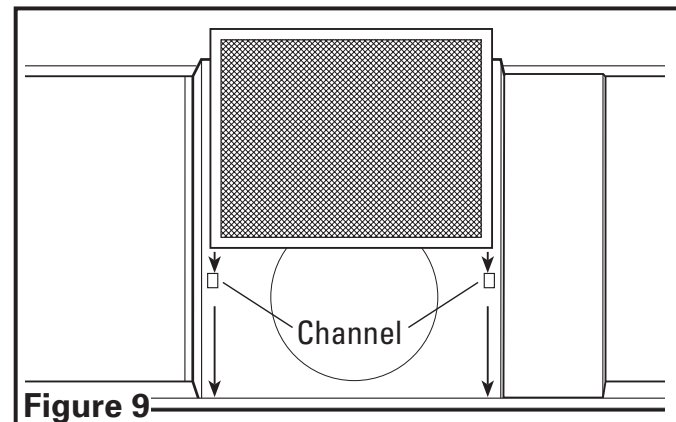

**Figure 8**
1. Connect the ducting to the hood's duct collar and damper. Secure in place using tape to seal all joints (**Figure 8**).